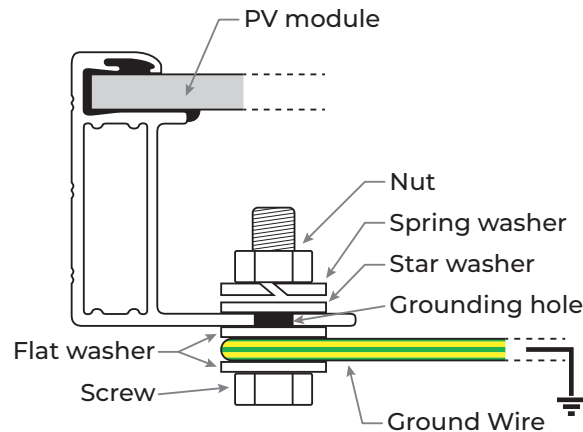

Figure 1
- Use M6 bolt and washers to bond the ground wire and aluminum frame through the grounding holes (as shown *Figure 1*). The tightening torque is 3-7N.m. All nuts and washers should be made of stainless steel.